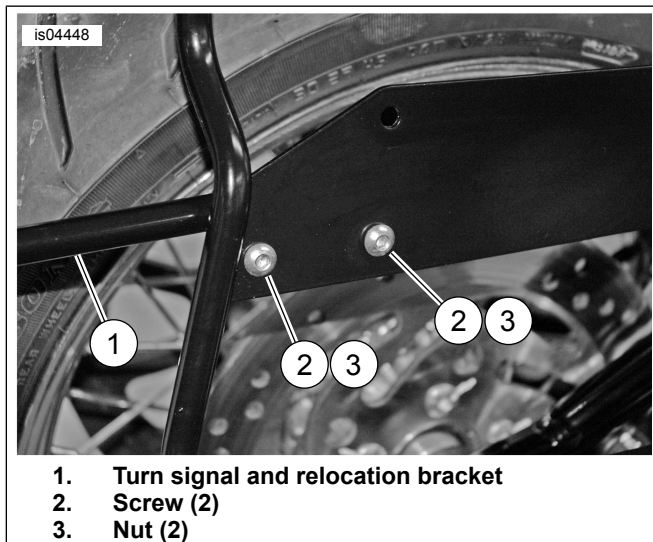

Figure 10. Install Turn Signal and Relocation Bracket
6. See Figure 10. Install turn signal and relocation bracket (1) to saddlebag support hanger using two screws (2) and nuts (3).